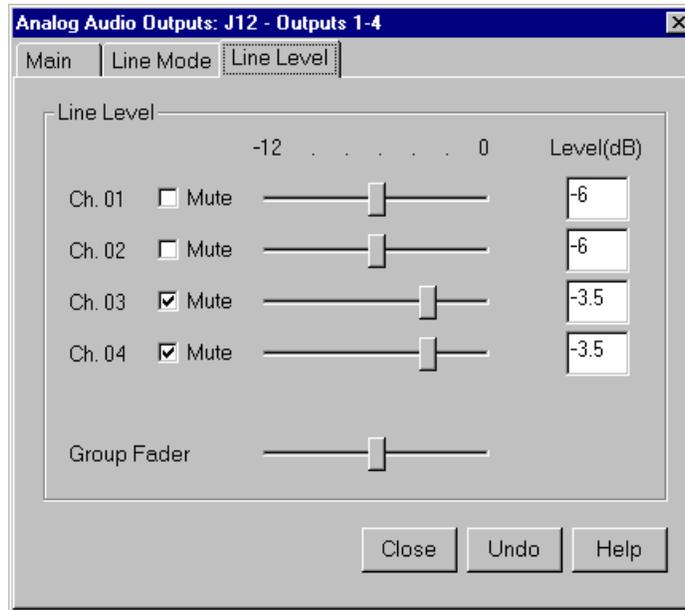

Figure 45. Analog Audio Outputs dialog box, Line Level tab
1. In the Analog Audio Output dialog box, click the Line Level tab (Figure 45).